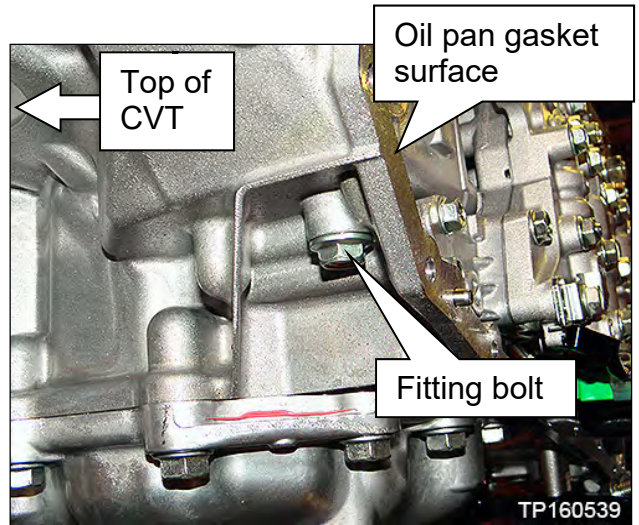

Figure 51
- a. Remove the fitting bolt located above the left rear corner of the oil pan gasket surface (Figure 51).